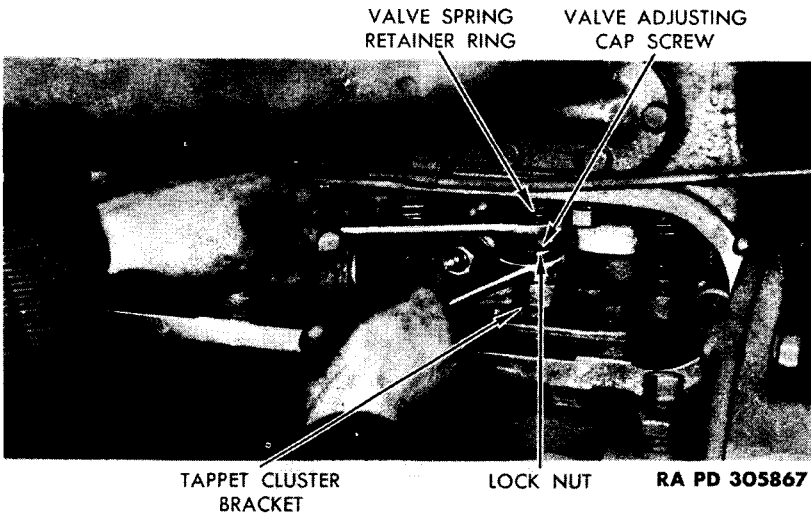

Figure 38—Adjusting Valve Tappet
b. Adjustment. Measure clearance between tappet and valve stem with engine hot. Loosen the lock nut and adjust intake valve to 0.010-inch, and the exhaust valve to 0.016-inch clearance. Hold the adjusting screw stationary with one open-end wrench and tighten the lock nut with another open-end wrench (fig. 38). After tightening lock nut, check with feeler gage for proper clearance.